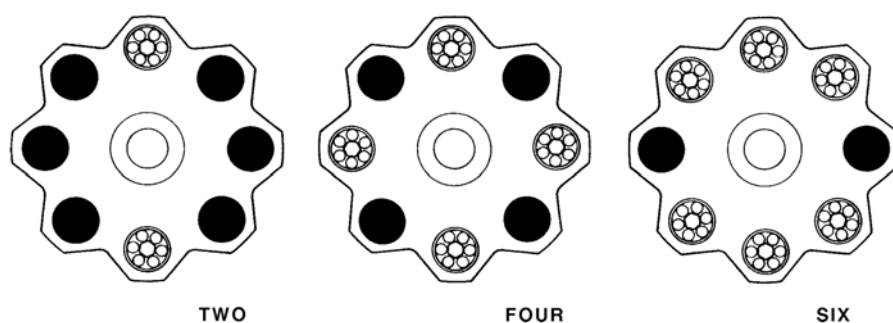

Figure 4-2. Rotor Balancing
- c. the rotor can be operated at any speed up to its maximum speed with groups of two, four, six or eight samples, as long as each sample is paired to another of identical specific gravity and the tubes are placed in opposite rotor compartments as shown in figure 4-2.